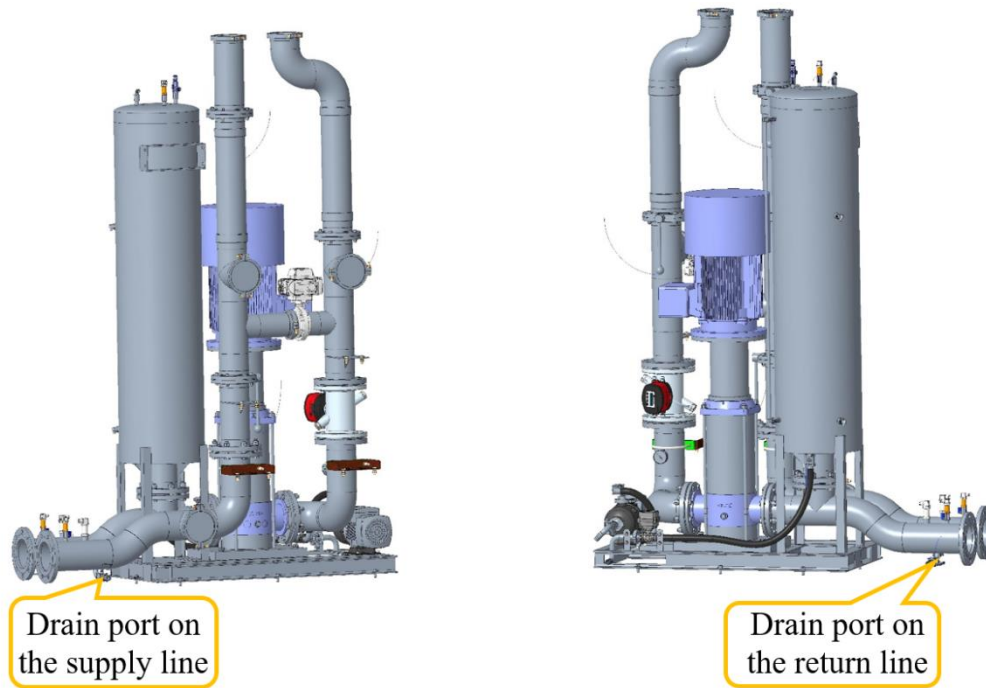

Figure 9.3 Position of the liquid discharge ball valve of the pump station
- a) Locate the position of the liquid discharge ball valve (see Figure 9.3);
- c) Lead the hose outside the equipment, open the two liquid discharge ball valves (Figure 9.3), and then drain the system.
Coolant sampling can be performed at the system drain valve. Refer to Figure 9.3 for the location of the drain port. Preferably, sample from the return line drain port to ensure the sample is representative. The specific procedure is as follows: